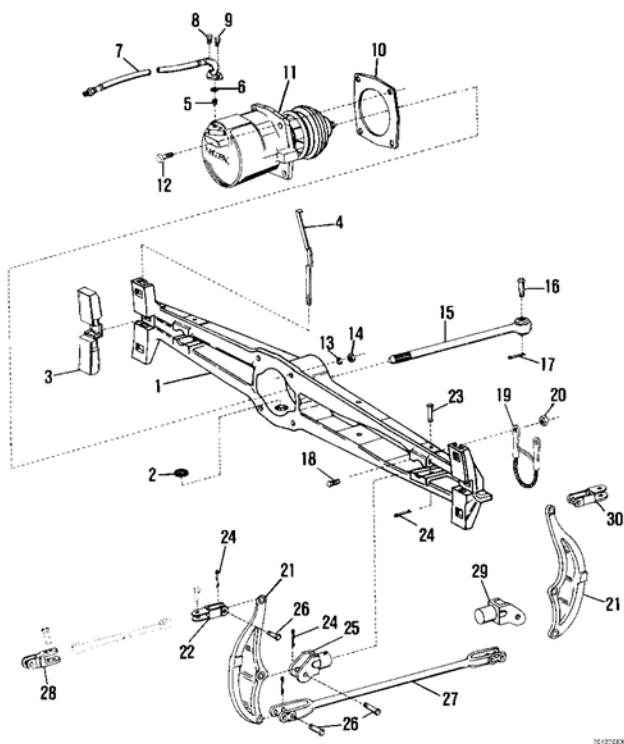

Figure 15: NYCOPAC Assembly with Handbrake
5.4.1 NYCOPAC Assembly - With Handbrake, Fig. 15